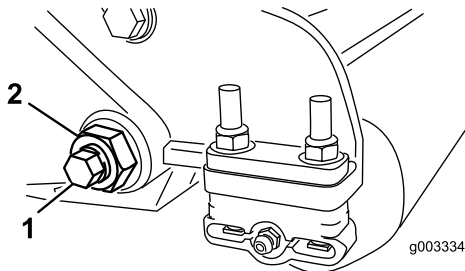
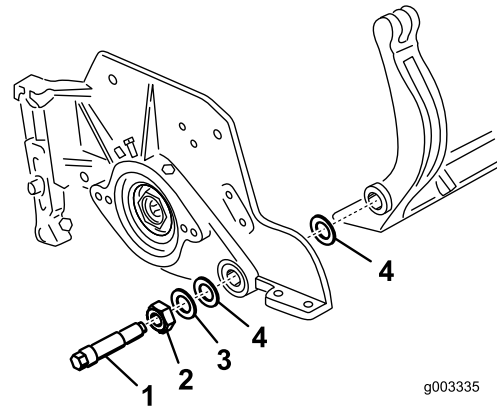

Figure 31
Figure 32
3. On each side of the machine, loosen the lock nut securing the bedbar bolt (Figure 31).
4. Remove each bedbar bolt allowing bedbar to be pulled downward and removed from machine bolt (Figure 31). Account for 2 nylon and 1 stamped steel washers on each end of bedbar (Figure 32).
4. Place a steel washer outside each of the nylon washers (Figure 32).